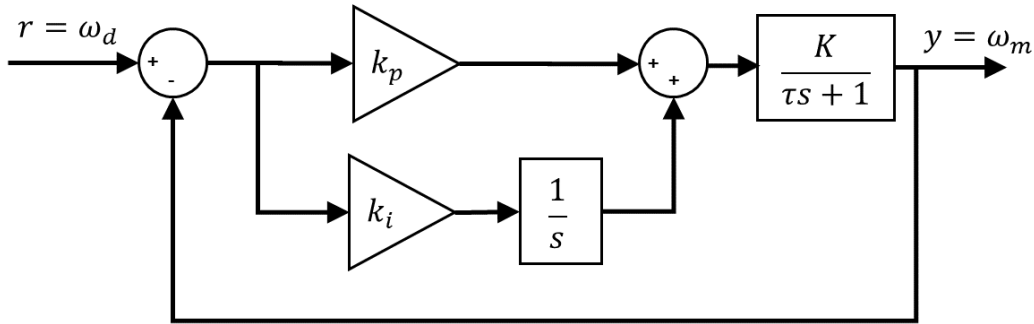
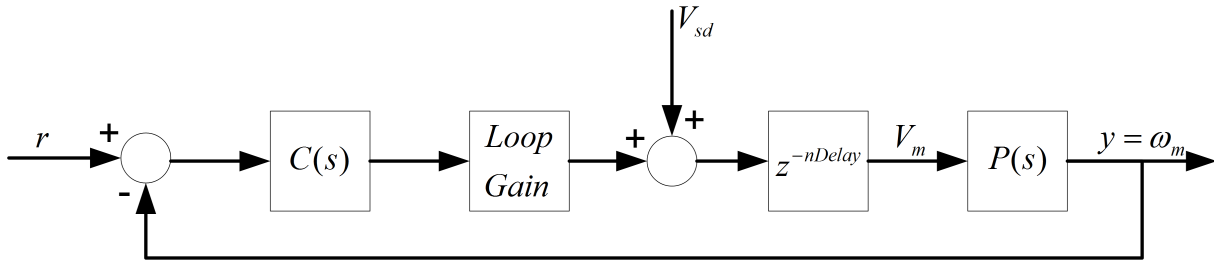
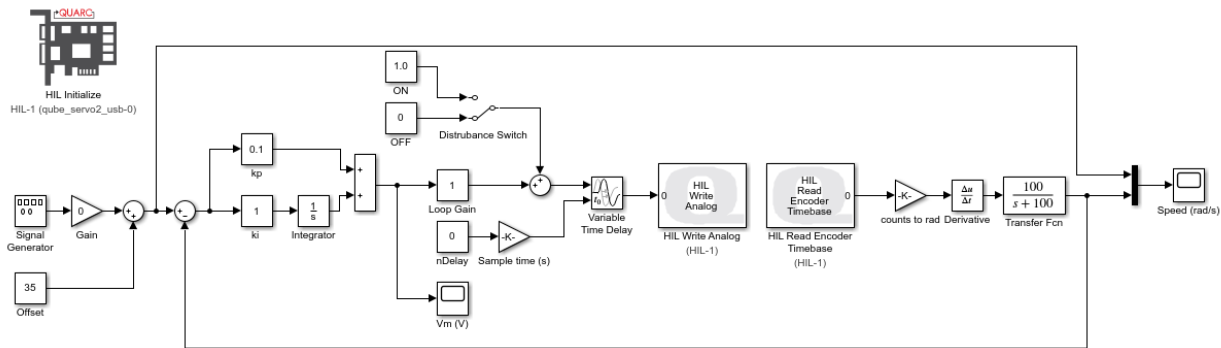

Figure 1.2: Block diagram of PI control for speed control
Figure 2.1: PI speed control with *Loop Gain* and *Sample Delay* disturbances
Figure 2.2: Simulink/QUARC model that implements PI speed control with *Loop Gain* and *Sample Delay* effects
To control the speed of the servo, we will implement a PI control. The block diagram of a generic PI controller in Figure 1.2. The ideal PI controller with proportional gain  $k_p$  and an integral gain  $k_i$  can be expressed mathematically as
To assess the robustness of the control system, the system will be subjected to a *Loop Gain* and *nDelay* disturbances as illustrated in Figure 2.1. The *Loop Gain* parameter is a pure gain and is used to estimate the system gain margin. The *nDelay* parameter is an integer number of sample periods and is used to determine the extra time delay needed to make the system unstable.
Using the **QUARC**® controller designed in the Stability Analysis laboratory experiment, build the Simulink model shown in Figure 2.2. This implements the PI control loop shown in Figure 1.2 with the added the *Loop Gain* and *Sample Delay* effects shown in Figure 2.1. The Variable Time Delay block is used to add a time delay to the control signal. The *nDelay* sample delay is converted into time delay by multiplying it by the controller sampling interface (done using the *Sample time (s)* gain block and the `qc_get_step_size` QUARC command).
3. Run the model shown in Figure 2.2 using the *Speed Lab Design (SLD)* PI gains. Make sure the model step size is set to run at 0.01 seconds. Set the *Amplitude* = 0 and the *Offset* = 35 rad/s. Slowly increase the *Loop*
7. Run the model shown in Figure 2.2 using the MSD PI gains found. Similarly as done with the SLD gains, find the *Loop Gain* and *nDelay* required to make the system go into stable / non-decaying oscillations.